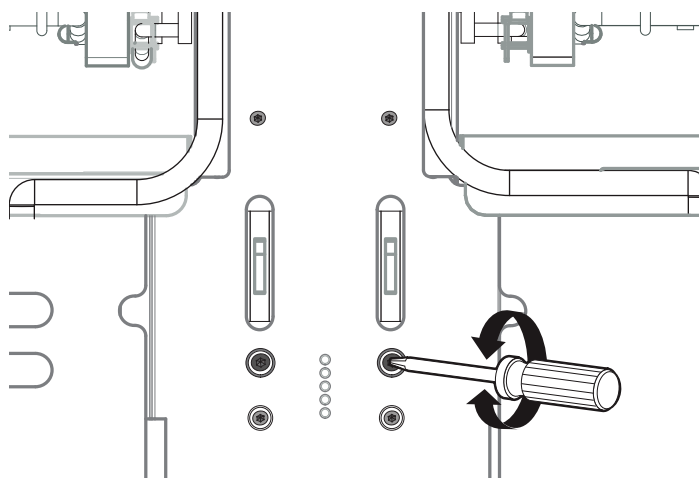

Figure 23: Hinge Receiver Adjustment Screw
- For 48" models with large and small ovens, if door or handle appears slightly tilted, you may adjust the hinge receiver by rotating the large Torx-head screw located directly below the hinge receiver with a T-20 Torx driver. Rotate each screw respective to its side and direction the door needs to be adjusted (*Figure 23*).